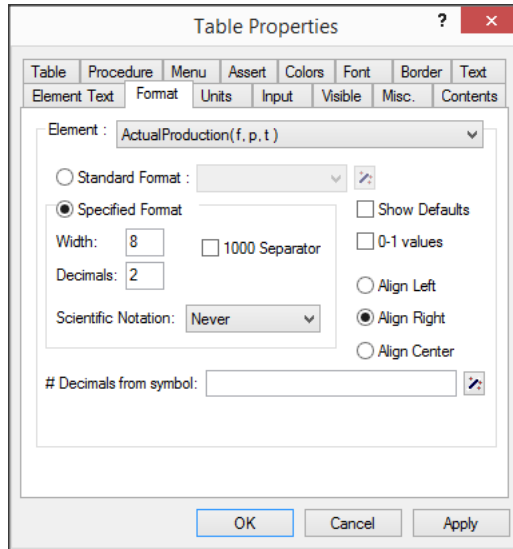

Figure 11.7: The **Format** tab of the **Table Properties** dialog box
- ▶ select the **Format** tab (see Figure 11.7),